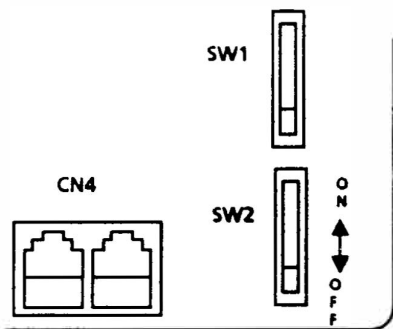

Figure 200-35 EXS-Z KTU Switch Location
- B. CO/PBX line 1 is controlled by SW1 and CO/PBX line 2 by SW2. Shown in Figure 200-35 EXS-Z KTU Switch Location.